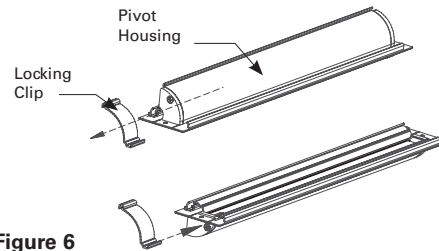

Figure 6
9. If the fixture is to be wall mounted, first, loosen the set screw on the back of the pivot housing. Then remove the locking clip by sliding it to the end of the pivot housing (See Figure 6). Rotate the pivot housing